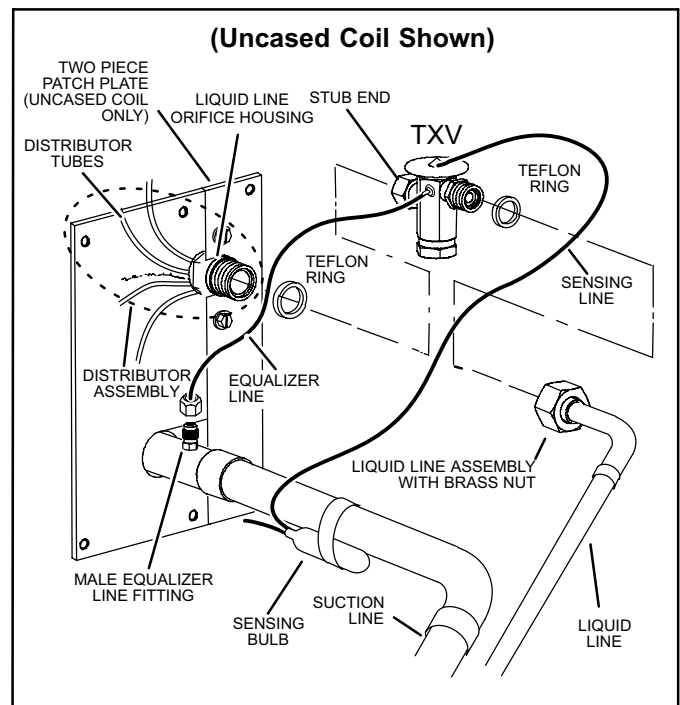

Figure 21. Typical TXV Removal
4. Remove the suction line sensing bulb as illustrated in figure 21.
7. Remove and discard TXV and the two Teflon rings as illustrated in figure 21.